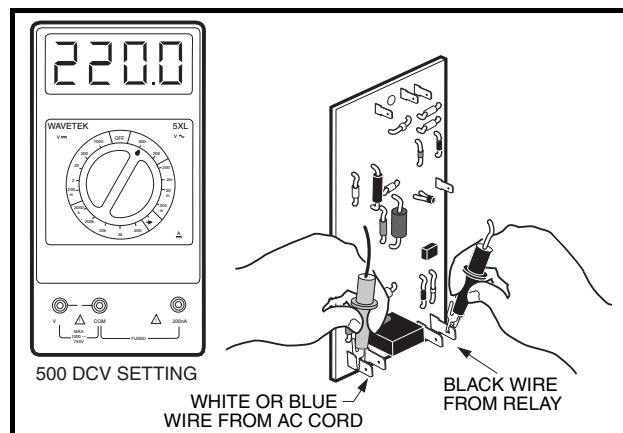

Figure 4-11 AC Circuit Test
3. Place black (–) probe of multimeter, set to 500 volts AC, onto terminal with black wire from relay. Connect red (+) probe to terminal from which the white or blue AC cord wire was disconnected (**Figure 4-11, Page 4-14**).